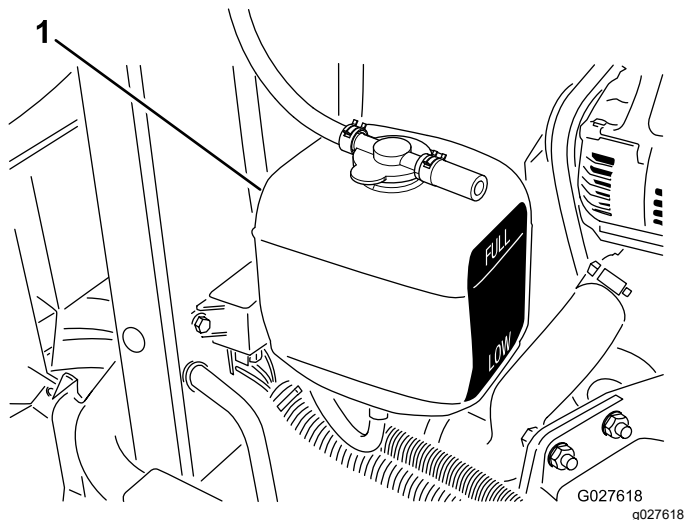

Figure 81
3. Check the coolant level in the expansion tank (Figure 81).